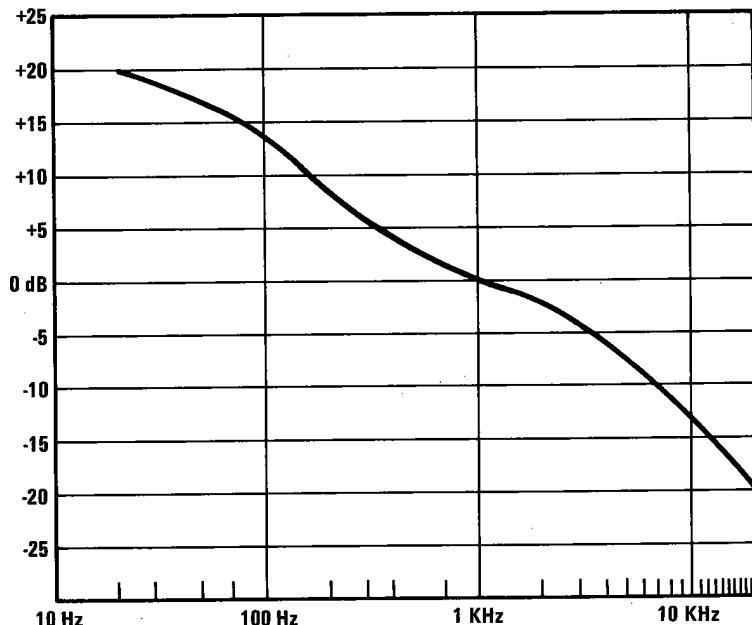

FIGURE 4 – RIAA EQUALIZATION CURVE
5. Sweep oscillator from 20 Hz to 20 KHz (changing analyzer voltage ranges as necessary) and check output to see that it follows the curve and chart in figure 4 within ± 0.5 dB.